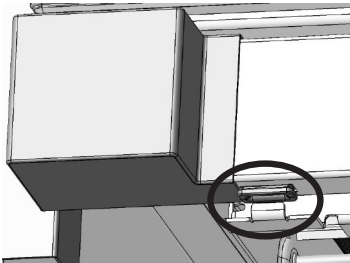
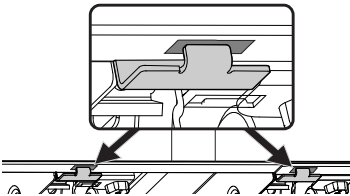
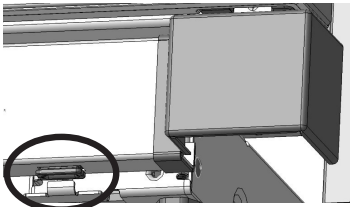

Fig. 27
Fig. 28
Fig. 29
- 26. a. Carefully place the Toe Kick slots over the 4 Leveler Assembly Tabs. The first Leveler Assembly tab is circled in Fig. 27, the second and third tabs are circled in Fig. 28, and the fourth tab is circled in Fig. 29.